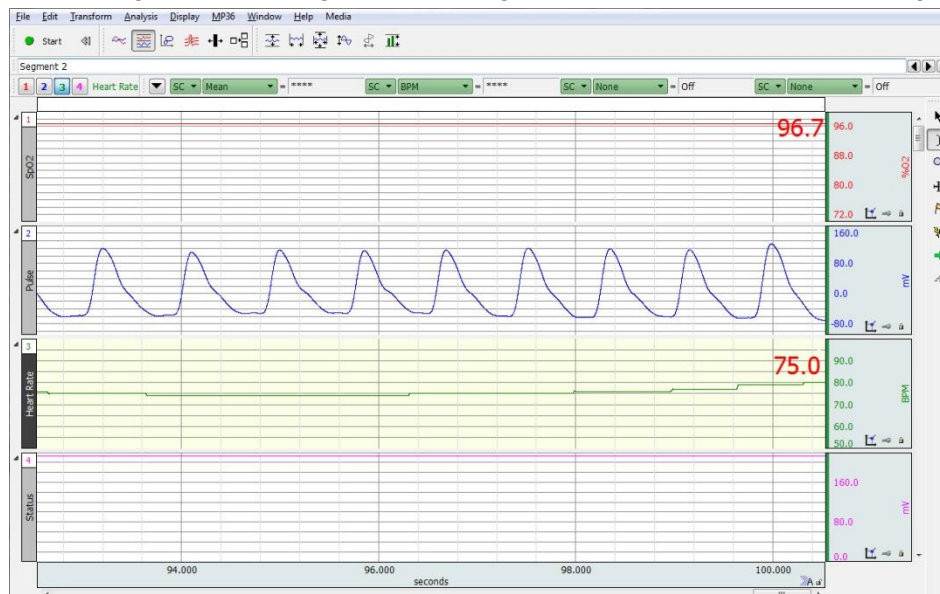

Figure 7
- Click “**Start**” to begin the recording. The recording should resemble data shown in Figure 7.